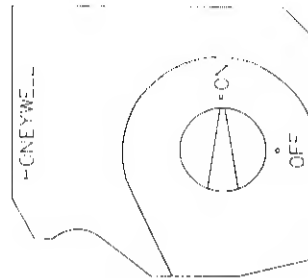

Figure 2
3. Turn gas valve knob (located behind fryer door) to ON position. See Figure 2.